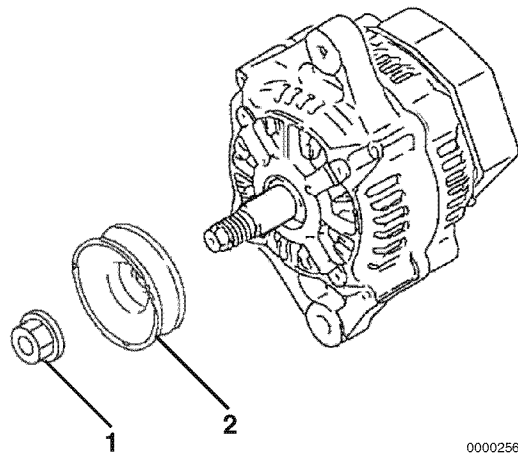

Figure 11-18
11. Reassemble the pulley (**Figure 11-18, (2)**) and nut (**Figure 11-18, (1)**) to the shaft of the rotor assembly. Tighten the nut.